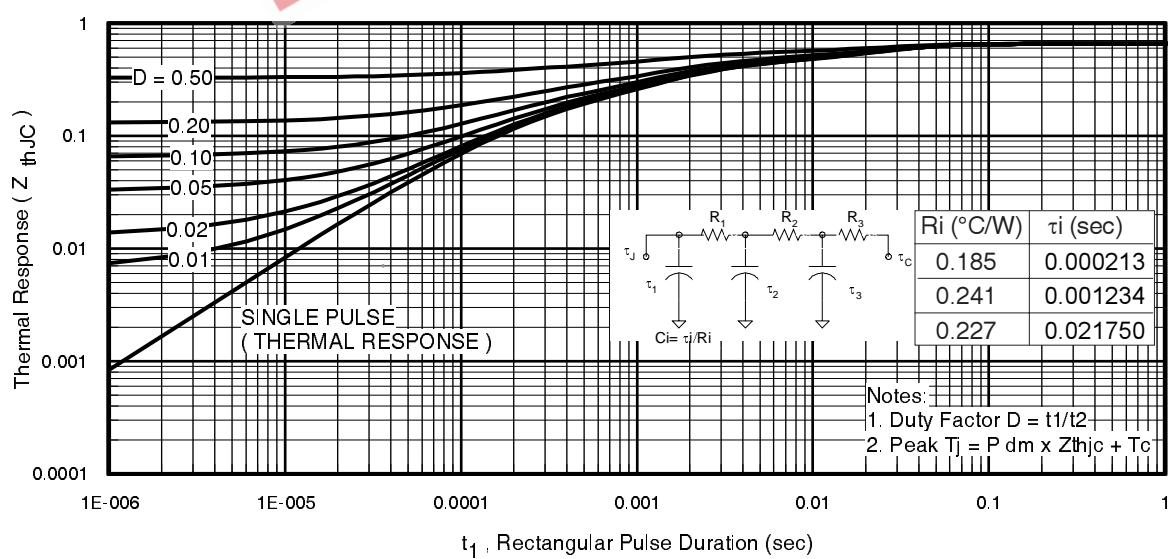
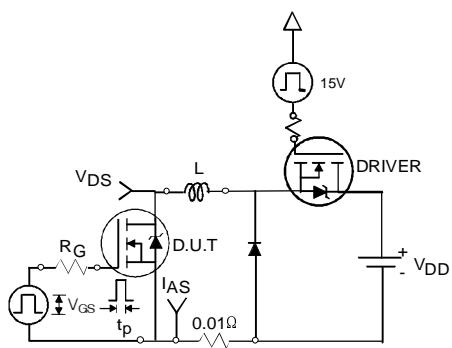

Fig 11. Maximum Effective Transient Thermal Impedance, Junction-to-Case
Fig 12a. Unclamped Inductive Test Circuit
- ① Repetitive rating; pulse width limited by max. junction temperature. (See fig. 11).
- ② Limited by $T_{J\max}$, starting $T_J = 25^\circ\text{C}$, $L = 0.079\text{mH}$, $R_G = 25\Omega$, $I_{AS} = 75\text{A}$, $V_{GS} = 10\text{V}$. Part not recommended for use above this value.
- ③ Pulse width $\leq 1.0\text{ms}$; duty cycle $\leq 2\%$.
- ④ $C_{oss\ eff.}$ is a fixed capacitance that gives the same charging time as C_{oss} while V_{DS} is rising from 0 to 80% V_{DSS} .
- ⑤ Limited by $T_{J\max}$, see Fig.12a, 12b, 15, 16 for typical repetitive avalanche performance.
- ⑥ This value determined from sample failure population. 100% tested to this value in production.
- ⑦ This is only applied to TO-220AB package.
- ⑧ When mounted on 1" square PCB (FR-4 or G-10 Material). For recommended footprint and soldering techniques refer to application note #AN-994.
3. Equation below based on circuit and waveforms shown in Figures 12a, 12b.
- $Z_{thJC}(D, t_{av})$ = Transient thermal resistance, see figure 11